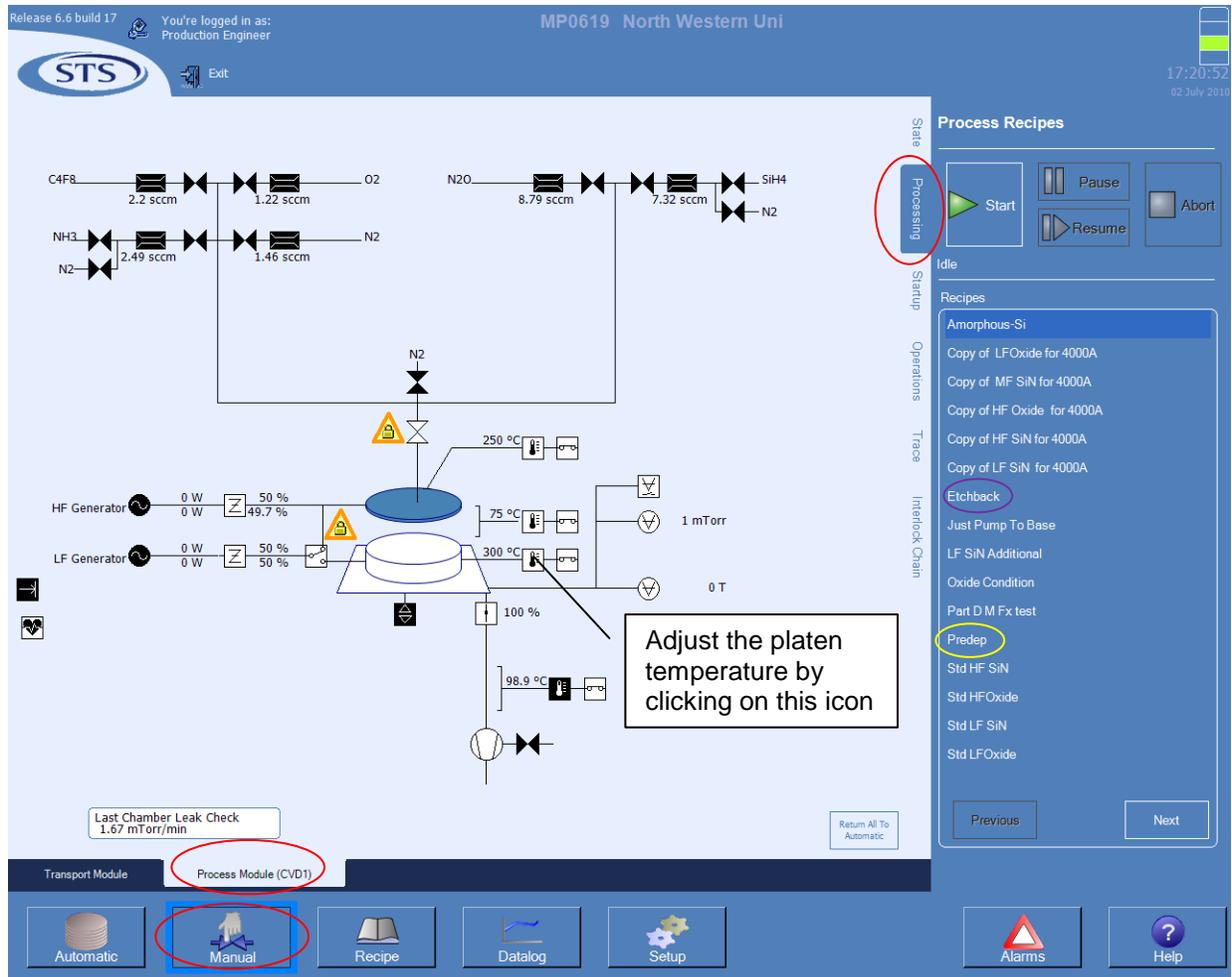

Figure 2: Running a process recipe.
- To display the screen shown in Figure 2 on the operation computer, select 'Manual', 'Process Module (CVD)', and 'Processing' tabs in this order. These are circled in red.
- Adjust the platen temperature to the desired temperature for your depositions. To adjust, click on the heater icon (Figure 2) and enter the new value in the menu that shows up on the right side of the screen. Most commonly used temperature is 300°C.
- a) Go to the screen shown in Figure 2 (Manual, Process Module, Processing).
- Go to the screen shown in Figure 2 (Manual, Process Module, Processing).
- h) Now you can go back to the screen shown in Figure 2 and you will find your recipe listed with other recipes. You can select it and run it if desired.